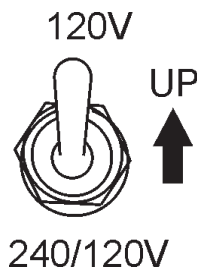

Figure 15. Full Power Switch (Up)
- Place the **full power switch** (Figure 15) in the "120V" (Up) position.